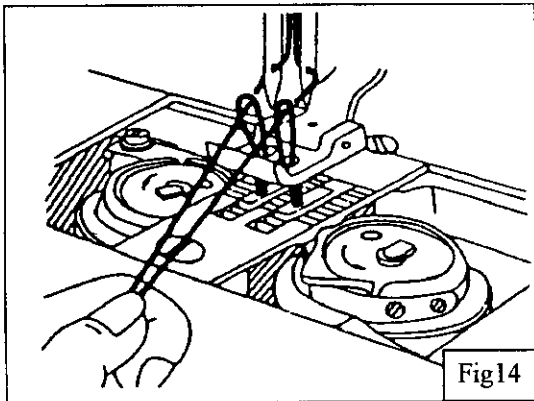

Fig.14
7) Threading of bobbin threads (Fig.14)